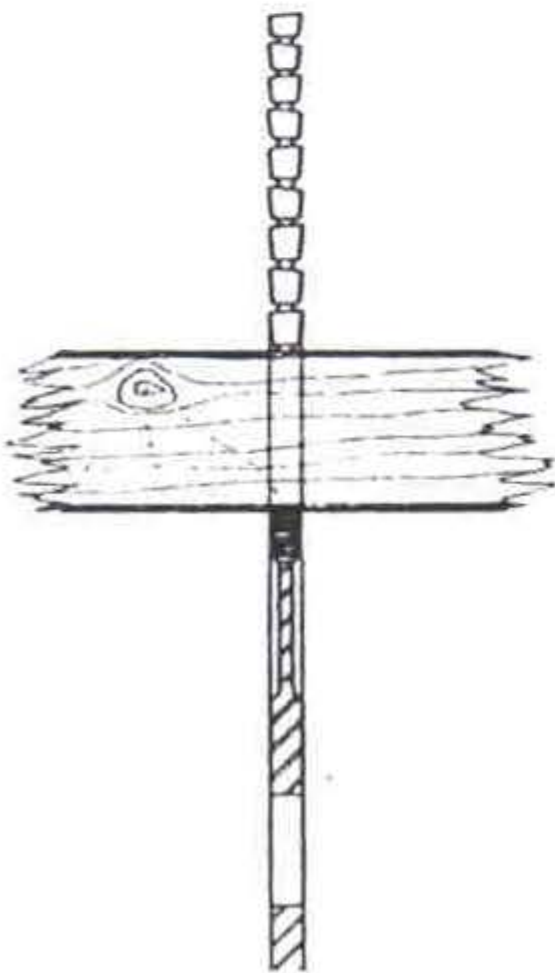

Fig. 30
- With a scoring blade of same thickness or thicker than the main saw disk (fig. 30).